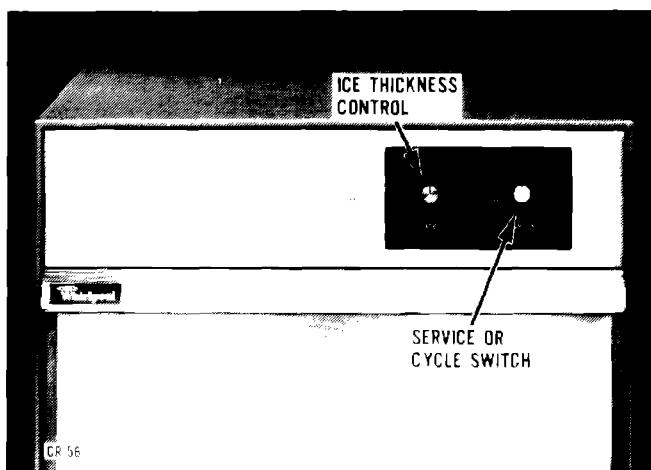

FIGURE 1 — SERVICE SWITCH
Your ice maker has been pre-set to produce ice approximately 13 mm (1/2") thick. The thickness can be increased or decreased by resetting the thickness control. Figure 1, however best performance will be obtained at the 13 mm (1/2") thickness.
1. Place service switch, **Figure 1**, in off position.